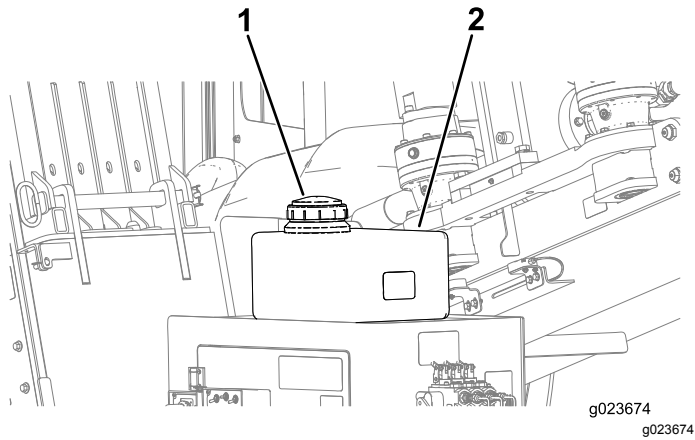

Figure 129
- C. Remove the cap from the antifreeze tank for the drilling-fluid pump (Figure 129).
D. Ensure that the tank is full of antifreeze (Figure 129).
D. Add antifreeze to the tank as needed (Figure 129).
5. Install the cap onto the antifreeze tank (Figure 129).